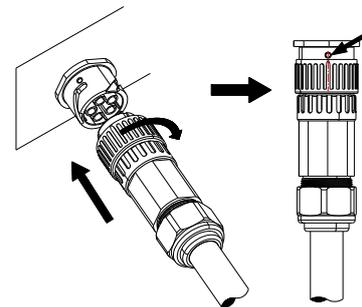

FIG 4-4 AC plug connection
Step 3: Insert the assembled plug into the AC socket on the inverter (please refer to the FIG 4-4). Tighten the connection by aligning the arrow on the plug with the circular hole on the socket.